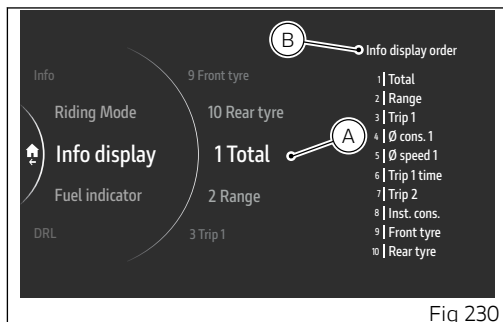

Fig 230
The list of the 10 selectable items, with the number of their current position (A, Fig 230) is displayed in the middle. The current order of the Info display (B, Fig 230) is displayed on the right-hand side.
- Use the joystick ▲ ▼ to select "Total" and press ENTER (Fig 230).
To restore the original order, select the "Default" item and press ENTER: "Wait..." is displayed for a few seconds followed by "Restored". Then, "Default" item disappears from the menu list, while the positions of the items and the current order of the Info display are restored to their original conditions (Fig 230).